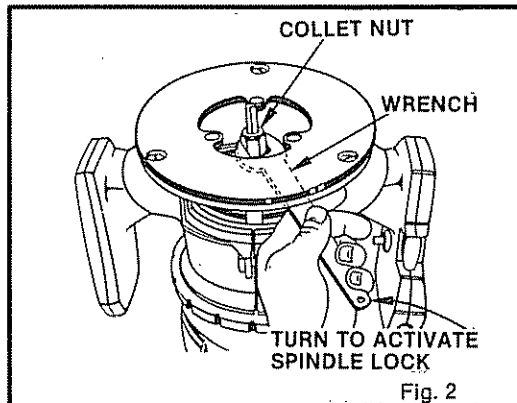

Fig. 2
See Figures 2 & 3
3. Place your router upside down on table, then turn collet nut with wrench until lock mechanism interlocks. See Figure 2. **NOTE:** Spindle lock is spring loaded and will snap into position when lock mechanism interlocks.